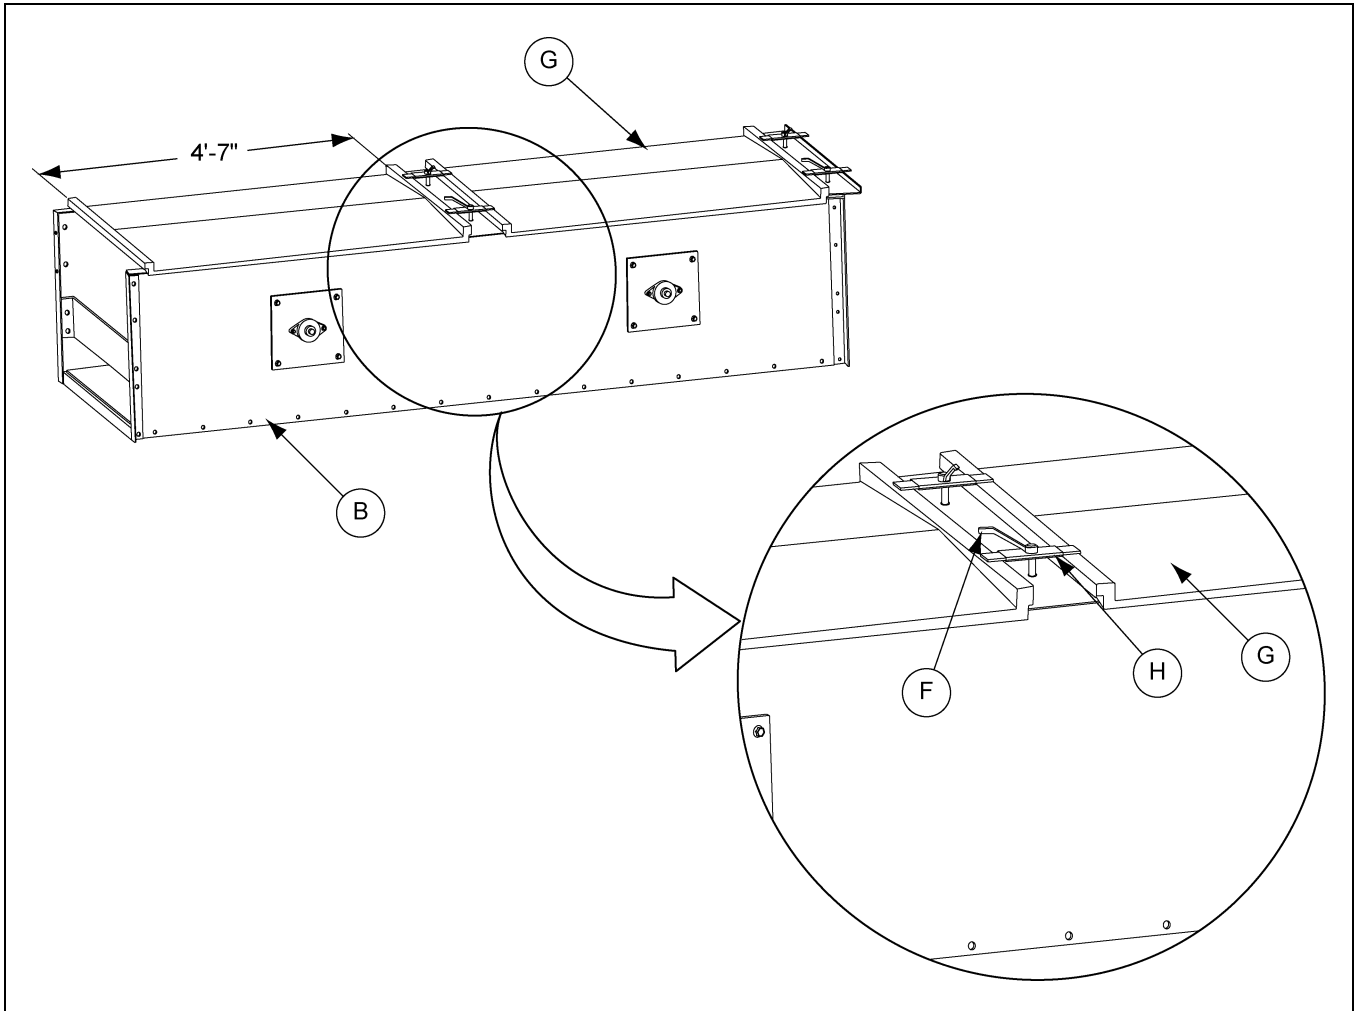

Figure 3C
8. The covers are made to fit over the entire width and half the length of the trunking sections (B).
9. Place the covers (G) over the trunking section and secure the covers with clips (H) and easy grip handles (F) provided. Adequately tighten the 3/8" handles so that the covers are in tight contact with the cross channels. (See Figure 3C.)